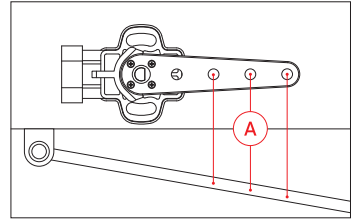

Fig. 6: Coupling rod attachment point
1. Attach the sensor to the vehicle and center the sensor arm. Disconnect the air line from the air bellows and raise the suspension using a transmission jack to the lower end stop of the chassis. Measure the distance [A] from the Position the sensor arm to the selected coupling rod attachment point (Fig. 6). Ensure that the attachment points are suitable for the entire travel range of the chassis/vehicle.